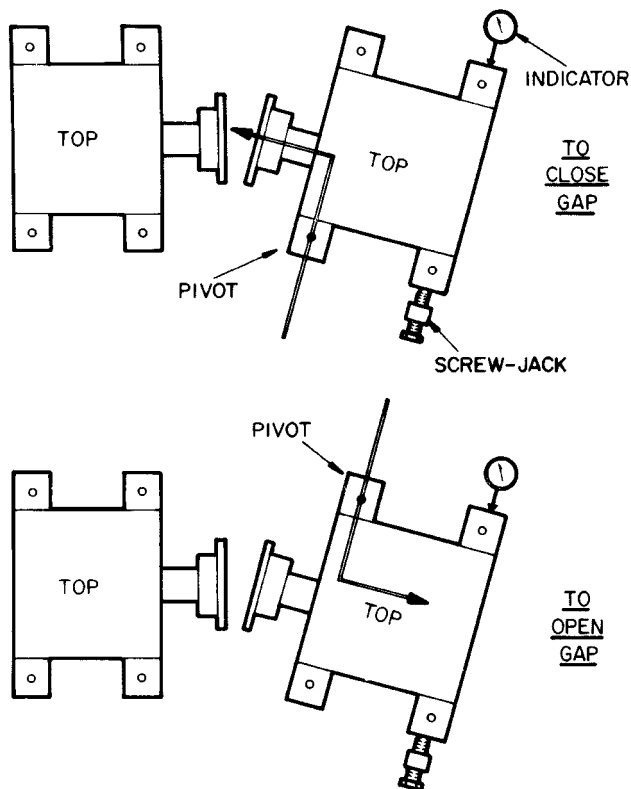

Fig. 41 — Adjusting Angular Misalignment in Plan
Determine the angular adjustment in plan by the same method of calculation. At this point, however, the procedure should include a correction for the change in coupling gap which always occurs in adjusting angular alignment (Fig. 40). By selecting the proper pivot point (see Fig. 41), the coupling gap can be kept at the dimension specified in the job data.
2. Place a dial indicator against the rear foot as indicated in Fig. 41.